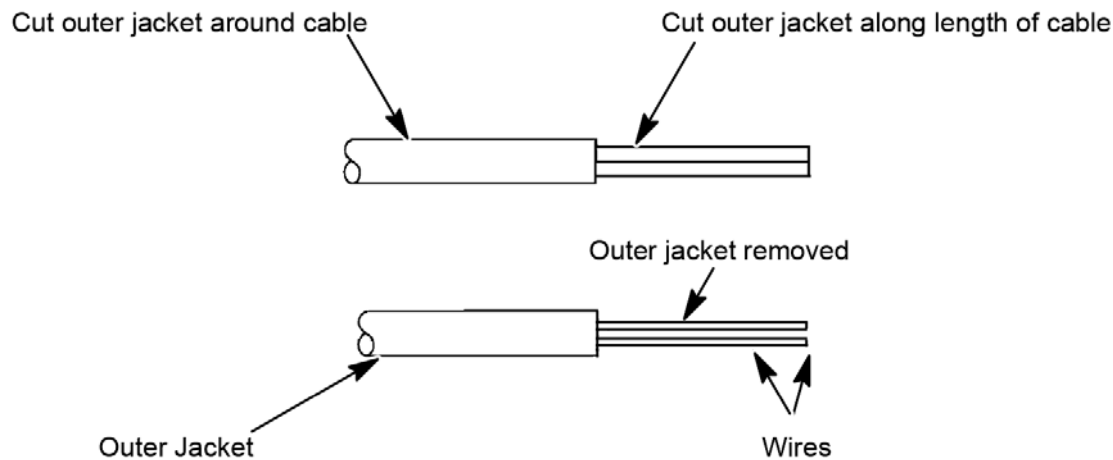

Figure 4. Removing Outer Jacket of Multi-conductor Cable
a. Cut the outer jacket of the thermocouple cable using a sharp blade or knife. Slit the outer jacket between parallel conductor wires. Remove the outer jacket (see Figure 4).